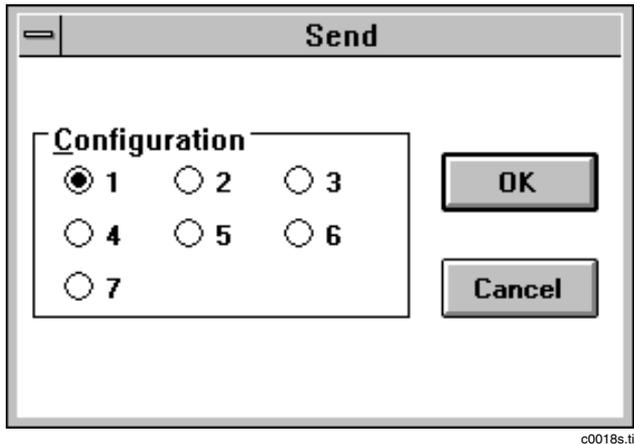

Figure 26. Sending a Configuration to the GMM
2. Select Instrument - Send To. A Send dialog box (Figure 26) appears.